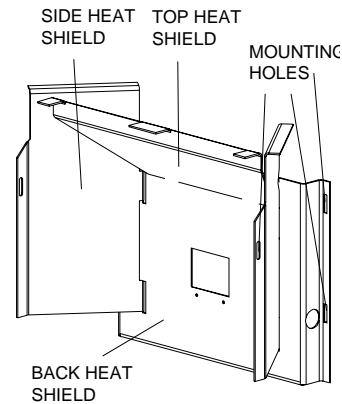
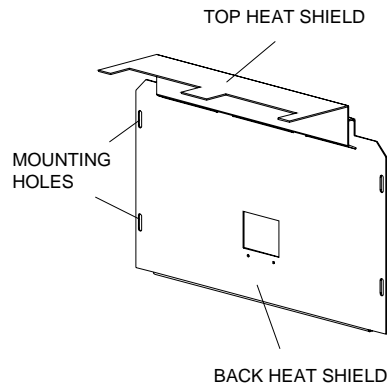

Figure 20. Model 100 and KSH 120 Heat Shields.
Figure 21. BayWin Heat Shields.
2. Clean behind the back heat shield as well as all exhaust passages. Ashes can build up behind the back heat shield and inside the exhaust passages. To remove the back heat shield you must remove 4 bolts located at each corner of the heat shield. On some models the side heat shields must first be removed by removing the 2 bolts holding them in place. Using a brush, remove all of the ashes that have built up on the back wall of the combustion chamber, on the inside of the heat shield as well as in the exhaust passage. Inspect the auger chute gasket at this time. Make sure the gasket is still in good condition and that it is in the original position when the back heat shield is bolted back into position. Make sure to clean behind the back heat shield after every 3 tons of fuel burned. See Figure 20 and Figure 21 for removal of the heat shields.